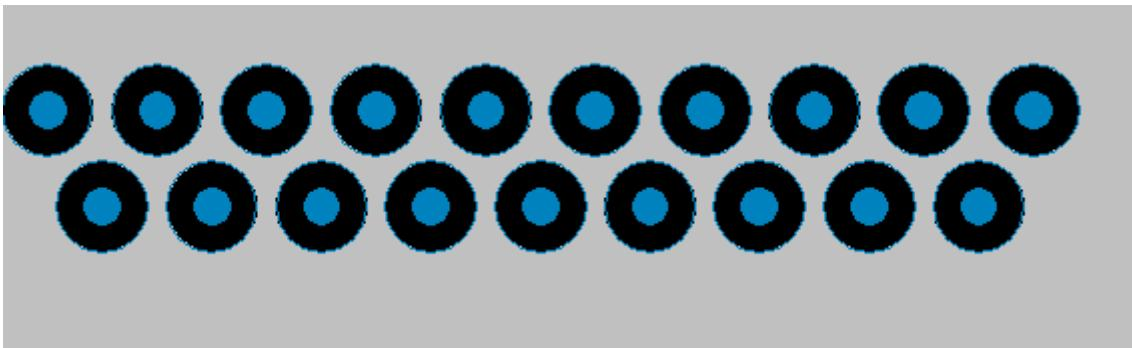

Figure 8-9
- The integrity of copper in the part of DDR will directly influence the performance and compatibility of DDR. Design as follows can achieve the effect shown as Figure 8-9.